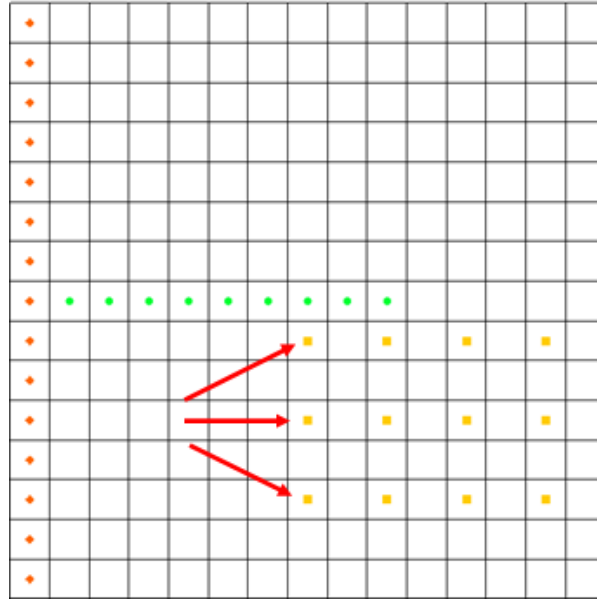

Figure 7 Rows with wells (twelve yellow squares)
2. shown in Figure 7 (the twelve cells containing yellow squares, rows indicated by red arrows). The coordinates of each well are shown in the table to the right.